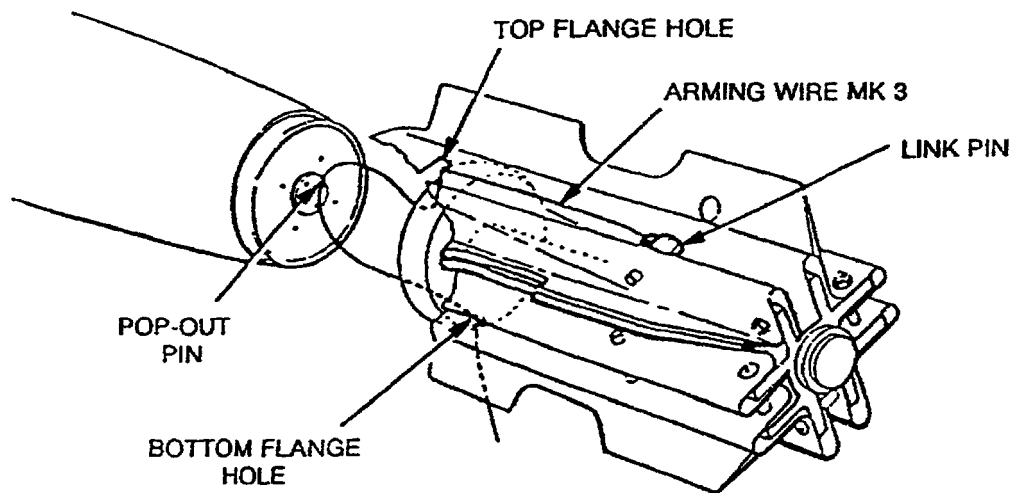

Figure 4-9B. Bomb Fin Mk 15 Arming Wire Rigging
- b. Thread free end of wire through small hole in top of fin flange (Figure 4-9B).
- g. Thread free end of arming wire through pop-out pin and small hole in bottom of fin flange (Figure 4-9B). Pull slack wire below bottom of fin. Ensure arming wire is not kinked or jammed.
- l. With Arming Wire Mk 3 secured to fin link pin (Figure 4-9B), ensure arming wire is not kinked or jammed by pulling alternately on top and bottom portions of wire. Pull free end of arming wire below fin to remove excess slack without creating a permanent bend in the wire where it enters the top fin blade. Cut arming wire 6 inches from bottom of fin.
- (1) Cut cable and strap assembly along dotted line marked "CUT FOR MK 82."
- (2) Remove Dexter clip from lanyard and discard.
- (3) Position cable and strap assembly on bomb midway between suspension lugs, with arrow pointing forward and aligned with suspension lugs.
- (4) Pass pad end of strap assembly through tension buckle, pull tight to bomb, and secure by pressing fastener (Velcro) pads together. Pads must be tight to ensure strap assembly cannot move.
- (5) Remove beryllium clip and Fahnestock clips from Blackwell pin.
- (6) Pass the arming clip of the cable and strap assembly through the eye of the Blackwell pin.
- (7) Pass the Blackwell pin through the aft suspension lug. Loop the cable and strap assembly arming clip around the aft suspension lug. Secure lanyard by attaching the arming clip to the lanyard. Wrap arming clip with three turns of pressure sensitive tape or tie down strap; cut off excess tie down strap.